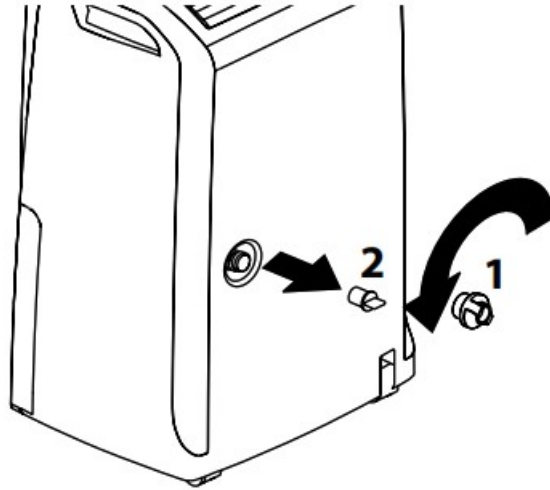

Fig. 2
1. Remove the continuous drain cap 1 by turning it counterclockwise then remove the rubber stopper 2 from the spout (fig. 2).
**Note:** Some leakage from the spout could happen when removing the rubber stopper 2 (fig.2).